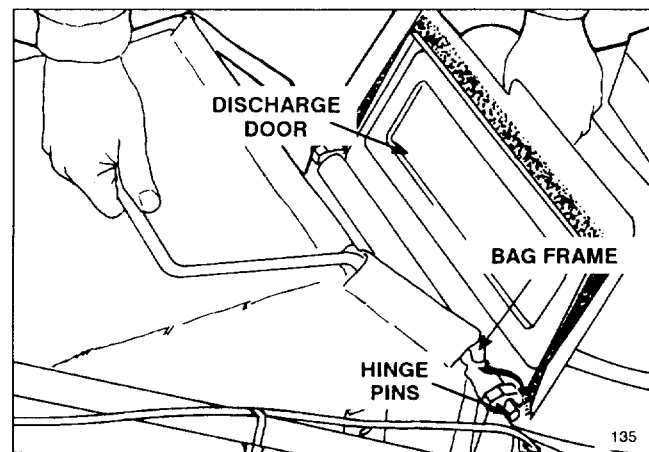

Figure 9
2. **INSTALLING BAG—**Raise discharge door and hook bag frame onto hinge pins (Fig. 9). Allow bag to rest on mower housing over discharge opening. Close door and make sure it seals around top of bag opening.